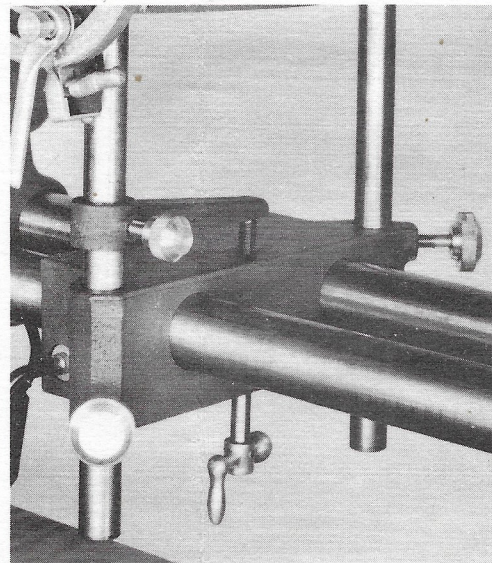

Fig. 2
3. Lower arm so that concave tip seats on conical point of screw. (Fig. 2)